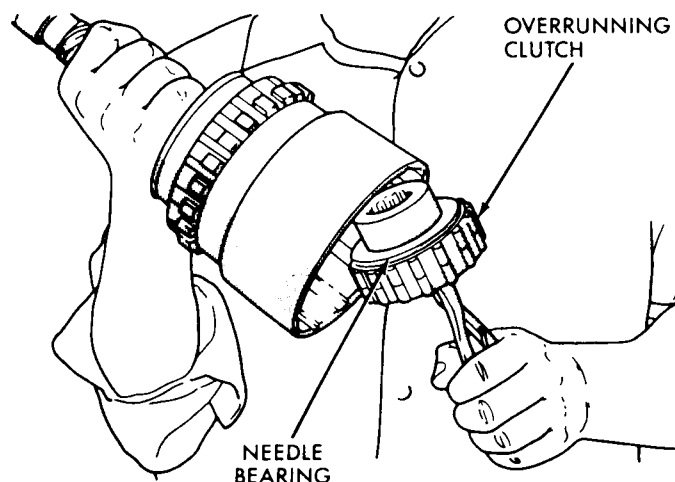

Fig. 6—Overrunning Clutch
(5) To remove the overrunning clutch, invert assembly and, with expanding snap ring pliers, reach into the inner splines of the clutch. Remove the overrunning clutch intact with a quick counterclockwise twist (Fig. 6). Also, remove the needle bearing.